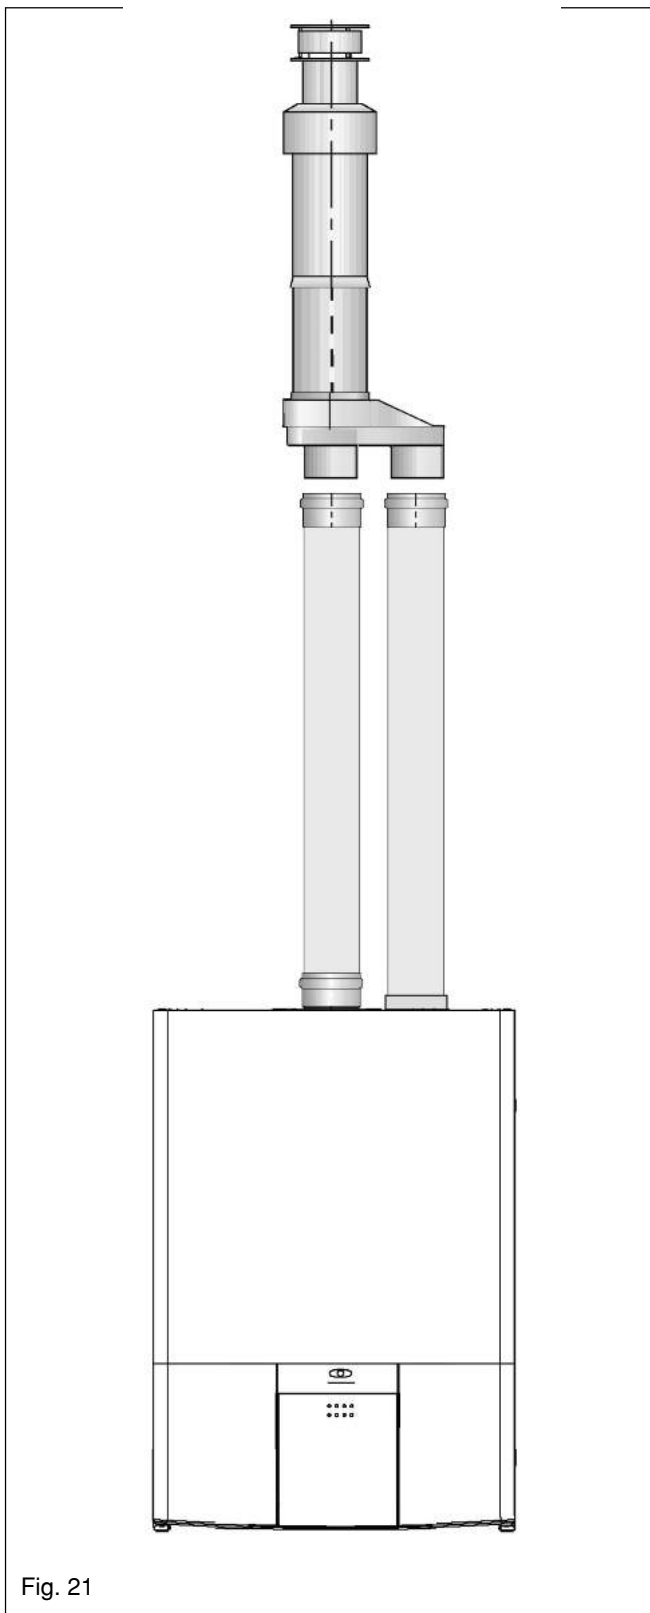

Fig. 21
4.5.6.3 VERTICAL TERMINATION (see fig. 21)